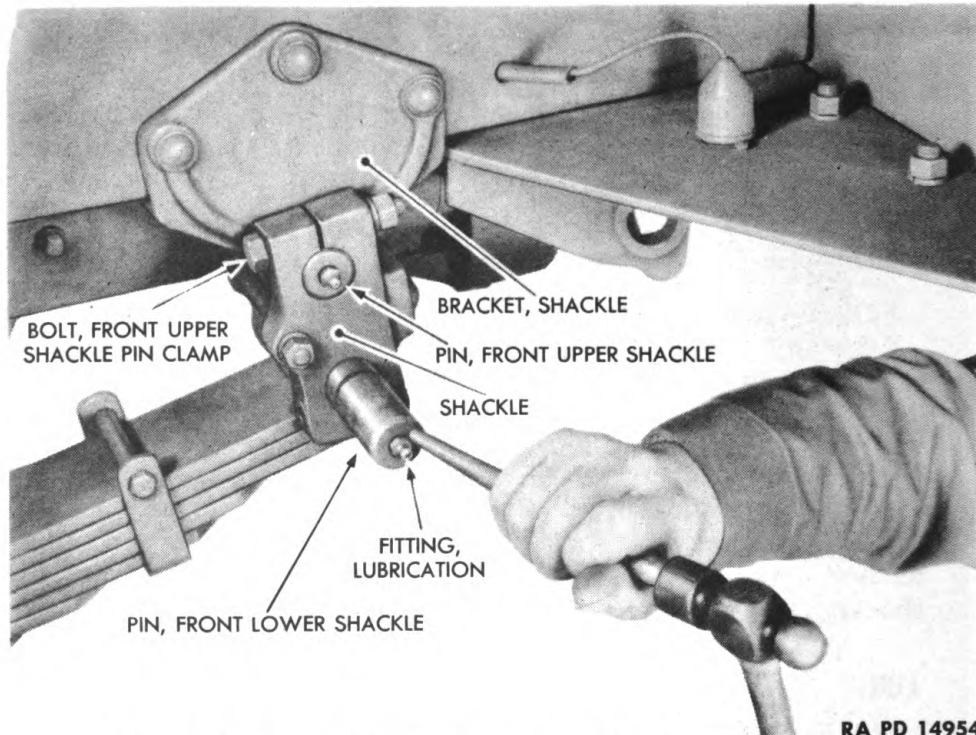

Figure 87—Installing Front Lower Shackle Pin
(c) Drive front lower shackle pin out of shackle and spring (hammer and drift). Remove lubrication fitting ($\frac{5}{16}$ -in. box wrench) (fig. 87).
(a) Remove front upper shackle pin clamp bolt and lock washer out of shackle ($\frac{7}{8}$ -in. open-end wrench) (fig. 87).
(b) Drive front upper shackle pin out of shackle (hammer and drift). Lift shackle off shackle bracket. Remove lubrication fitting ($\frac{5}{16}$ -in. box wrench). NOTE: The front shackle bracket (fig. 87) and rear shackle pin bracket (fig. 85) are riveted to frame.
(a) Install spring shackle on shackle bracket by driving front upper shackle pin through shackle and bracket (hammer) (fig. 87). Install lubrication fitting (5/16-in. box wrench).
(2) INSTALL FRONT SPRING (fig. 87).
(a) Install front spring. Drive front lower shackle pin through shackle and front spring (hammer and drift) (fig. 87). Install lubrication fitting in front lower shackle pin (5/16-in. box wrench).